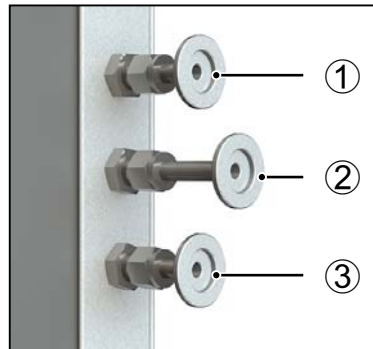

Fig. 18 Connections on the back of VO 49 Premium and VO 101 Premium appliances
Connect the vacuum connection to the back of the unit (Fig. 18 and Fig. 19 ③) to the vacuum pump connection of the pump module or another suitable vacuum pump using the connecting hose.
Connect an inert gas cylinder (pressure reducer) with a connecting hose with DN16KF connection to the connection on the rear of the unit (Fig. 18 ②). Set pressure reducer to between 1.0 and 1.2 bar.